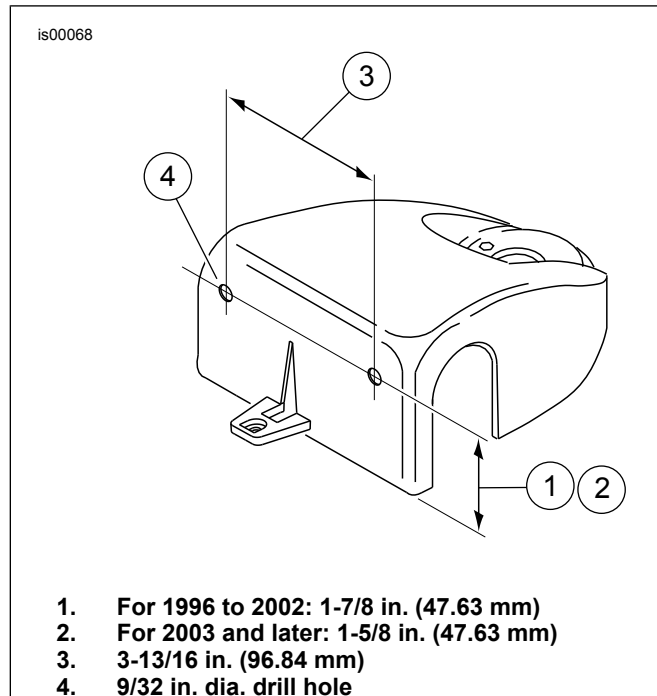

Figure 6. Bracket Hole Locations in FLHR Shroud
2. See Figure 6. Measure and mark the gauge bracket hole locations.
- See Figure 6. Attach gauge bracket to shroud with screws, lockwashers and nuts.